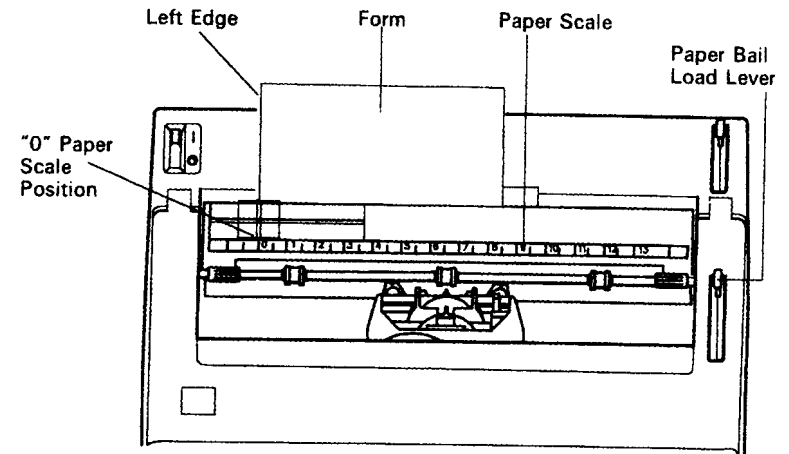

Figure 2-1.
3. Place the left edge of the form in the typewriter at the 0 paper scale position. (See Figure 2-1.)
3. Place the left edge of the form in the typewriter at the 0 paper scale position. (See Figure 2-1 on page 2-31.)
2. Place the left edge of the continuous form in the typewriter at the 0 paper scale position. (See Figure 2-1 on page 2-31.)